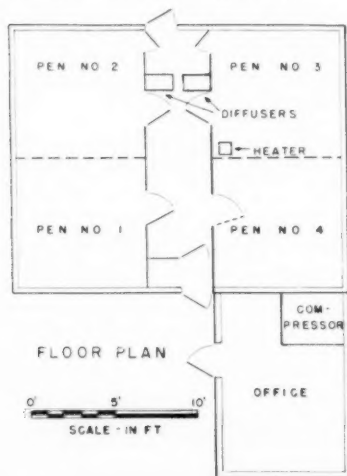

Fig. 1. Plan of constant-temperature farrowing house
When the house was moved, the two evaporators were relocated at one end of the central hallway as shown in Fig. 1. By proper arrangement of the pen doors, cooling was accomplished in either, or both, halves of the house. This arrangement allowed both evaporators to be used for one-half of the house in order to obtain maximum cooling. An electronic, proportional-time controller using a thermistor sensing element was designed and built (3), and gave good temperature control. Room temperature was recorded with an electronic thermocouple potentiometer and a distant thermograph. No attempt was made to control relative humidity.